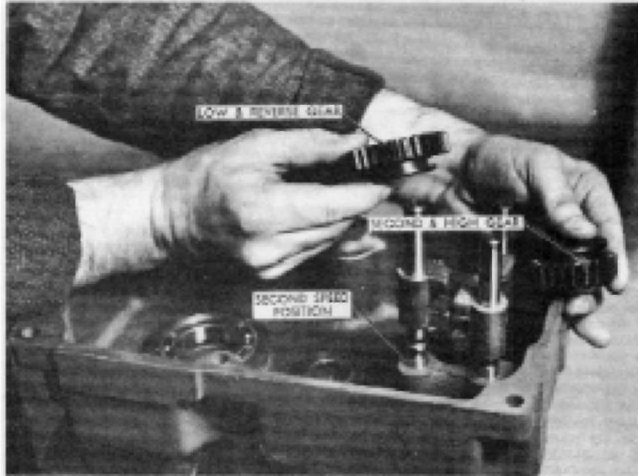

FIGURE 16
- Shift the 2nd and high shift fork into the 2nd speed position and install the 2nd and high sliding gear, and the low and reverse sliding gear in position on their respective forks, Figure 16. Note that the shift fork grooves of the sliding gears face each other, and that the smaller of the two gears is the 2nd and high gears which goes on the bottom.